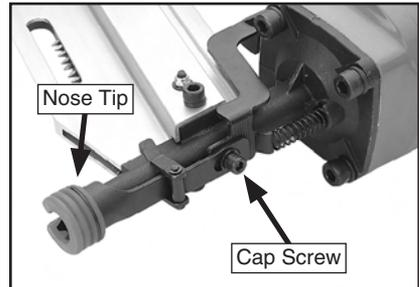

Figure 8. Loosening cap screw for depth adjustment on framing nailer.
2. Use a 4mm hex wrench to loosen the cap screw shown in **Figure 8**.